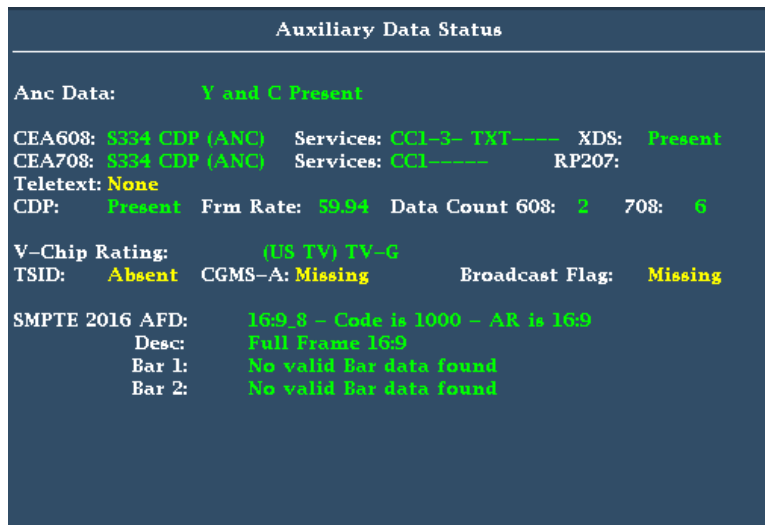

Figure 75: Auxiliary Data Status display
4. Select **Aux Data Status**. The Auxiliary Data Status display shows the status of the closed caption data. (See Figure 75.)
View the graticules in the Picture display. AFD information can viewed in the Auxiliary Data Status display. (See Figure 75 on page 159.)